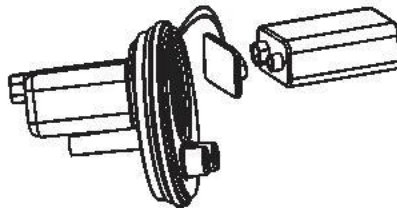

Fig.7
2. Unscrew the battery cover in the direction of the arrow. Push a 9v 6F22 battery into the battery cap, according to the battery polarity symbols. Note: the battery cap attachment should be placed above, push into the battery box. (see Figure.7)